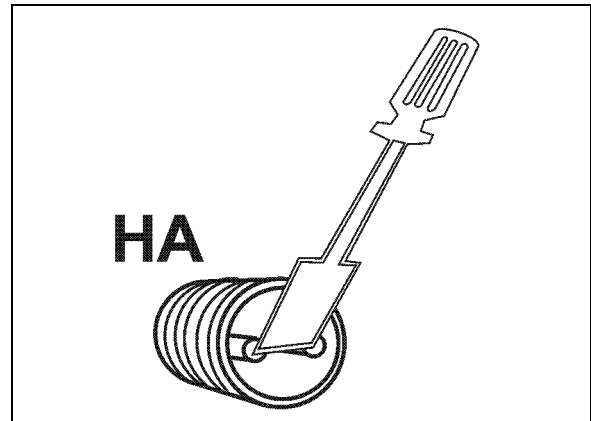

Fig. 13
3. Bridge over poles of the connecting bush several times with a small screw driver (Fig. 13).